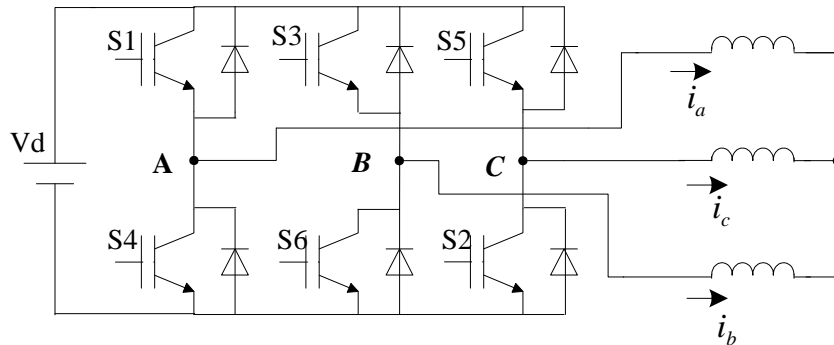

Figure 3.2 Voltage Source Inverter
- c. A Voltage Source Inverter is shown in figure 3.2. It is controlled by Space Vector Modulation and it operates with a sampling frequency of 5 kHz and a unity power factor. Consider a switching cycle in which the phase angle of the reference output voltage \vec{V}_{ref} is 120° and the amplitude of the reference voltage is at its maximum. With reference to figure 3.2, dwell times for vectors \vec{V}_1 and \vec{V}_2 are respectively given by (3.1) and (3.2). Represent the reference vector \vec{V}_{ref} in the space vector diagram and calculate the dwell times of the static vectors that are used to synthesis the reference voltage vector \vec{V}_{ref} .